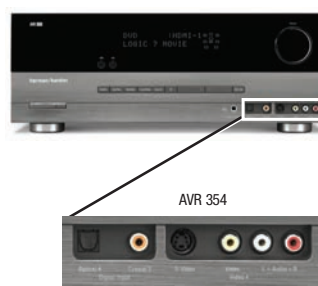

Figure 31 – Connecting a Device to the Front-Panel Inputs
- Connect the DVD player's S-video or composite video output (use one connection only) to the Video 1, 2 or 3 Input on the AVR. You may also use the Video 4 Composite or S-video Input located on the AVR's front panel (see Figure 31).
Alternatively, or if you have another brand of portable audio player, use an interconnect with a stereo 1/8-inch mini-plug at one end and two RCA plugs at the other end to connect the player to the Audio Inputs on the AVR's front panel. See Figure 31.
Video Components: Install video components, e.g., game consoles and camcorders, as follows (see Figure 31):
Audio Components: Connect audio-only devices, such as CD players, to either the Coaxial or Optical Digital Audio Inputs, or the Analog Audio Inputs (see Figure 31).